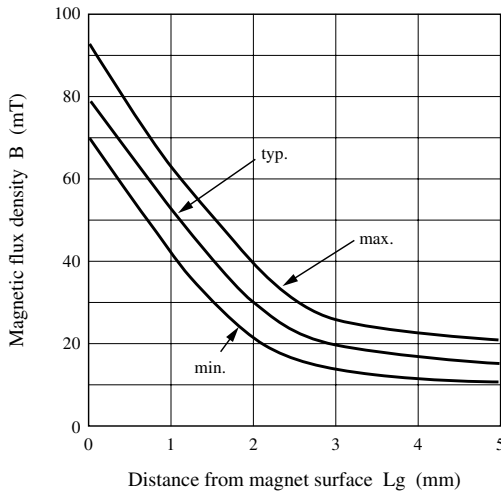

Figure 35
- 1) Remove gradually the sensor from surface of magnet, measure the data of flux density in each position. (figure 35)
- 2) Take the variation data of magnetizer condition. (figure 35)